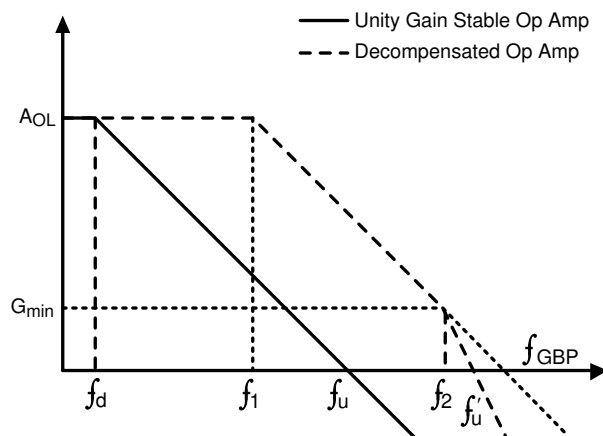

Figure 8-5. Gain vs Frequency Characteristics for a Unity-Gain Stable Op Amp and a Decompensated Op Amp
As shown in Figure 8-5, the dominant pole f_d is moved to the frequency f_1 in the case of a decompensated op amp. The solid A_{OL} plot is the open-loop gain plot of a traditional unity-gain stable op amp. The change in internal compensation in a decompensated amp such as the OPAX607, increase the bandwidth for the same amount of power. That is, the decompensated op amp has an increased bandwidth to power ratio when compared to a unity-gain stable op amp of equivalent architecture. Besides the advantages in the above mentioned parameters, an increased slew rate and a better distortion (HD2 and HD3) value is achieved because of the higher available loop-gain, compared to its unity-gain counterpart. The most important factor to consider is ensuring that the op amp is in a noise gain (NG) greater than G_{min} . A value of NG lower than G_{min} results in instability, as shown in Figure 8-5, because the $1/\beta$ curve intersects the A_{OL} curve at 40 dB/decade. This method of analyzing stability is called the *rate of closure method*. See the precision lab training videos from TI for a better understanding on device stability and for different techniques of ensuring stability.